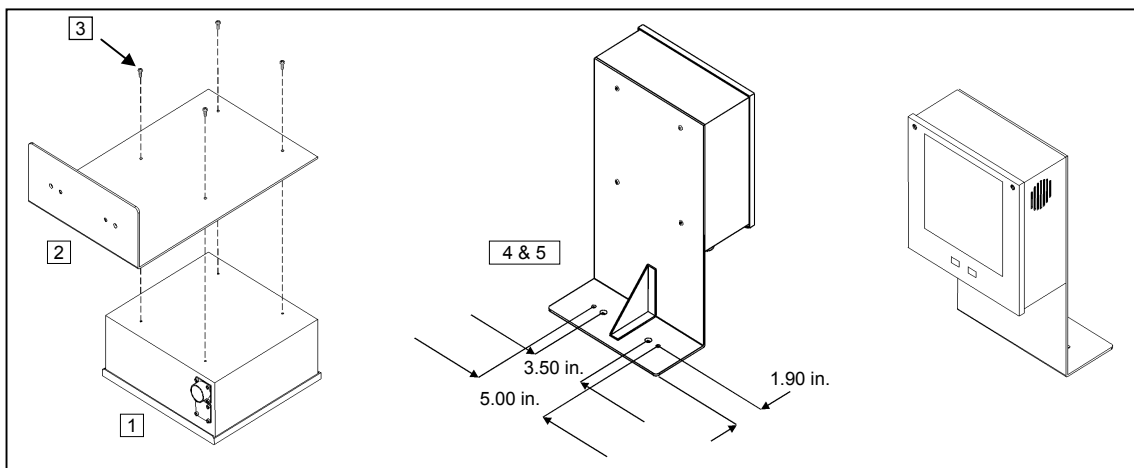

Figure 1: Stand Installation
The scanner can be positioned in a vertical orientation with the Metrologic stand (Part #45478). To attach the unit to the stand and work surface purchase the following: four 6-32 x 1/2" (maximum length) machine screws and two (2) #10 pan head or two (2) #8 countersunk wood screws. (Refer to figure 1)